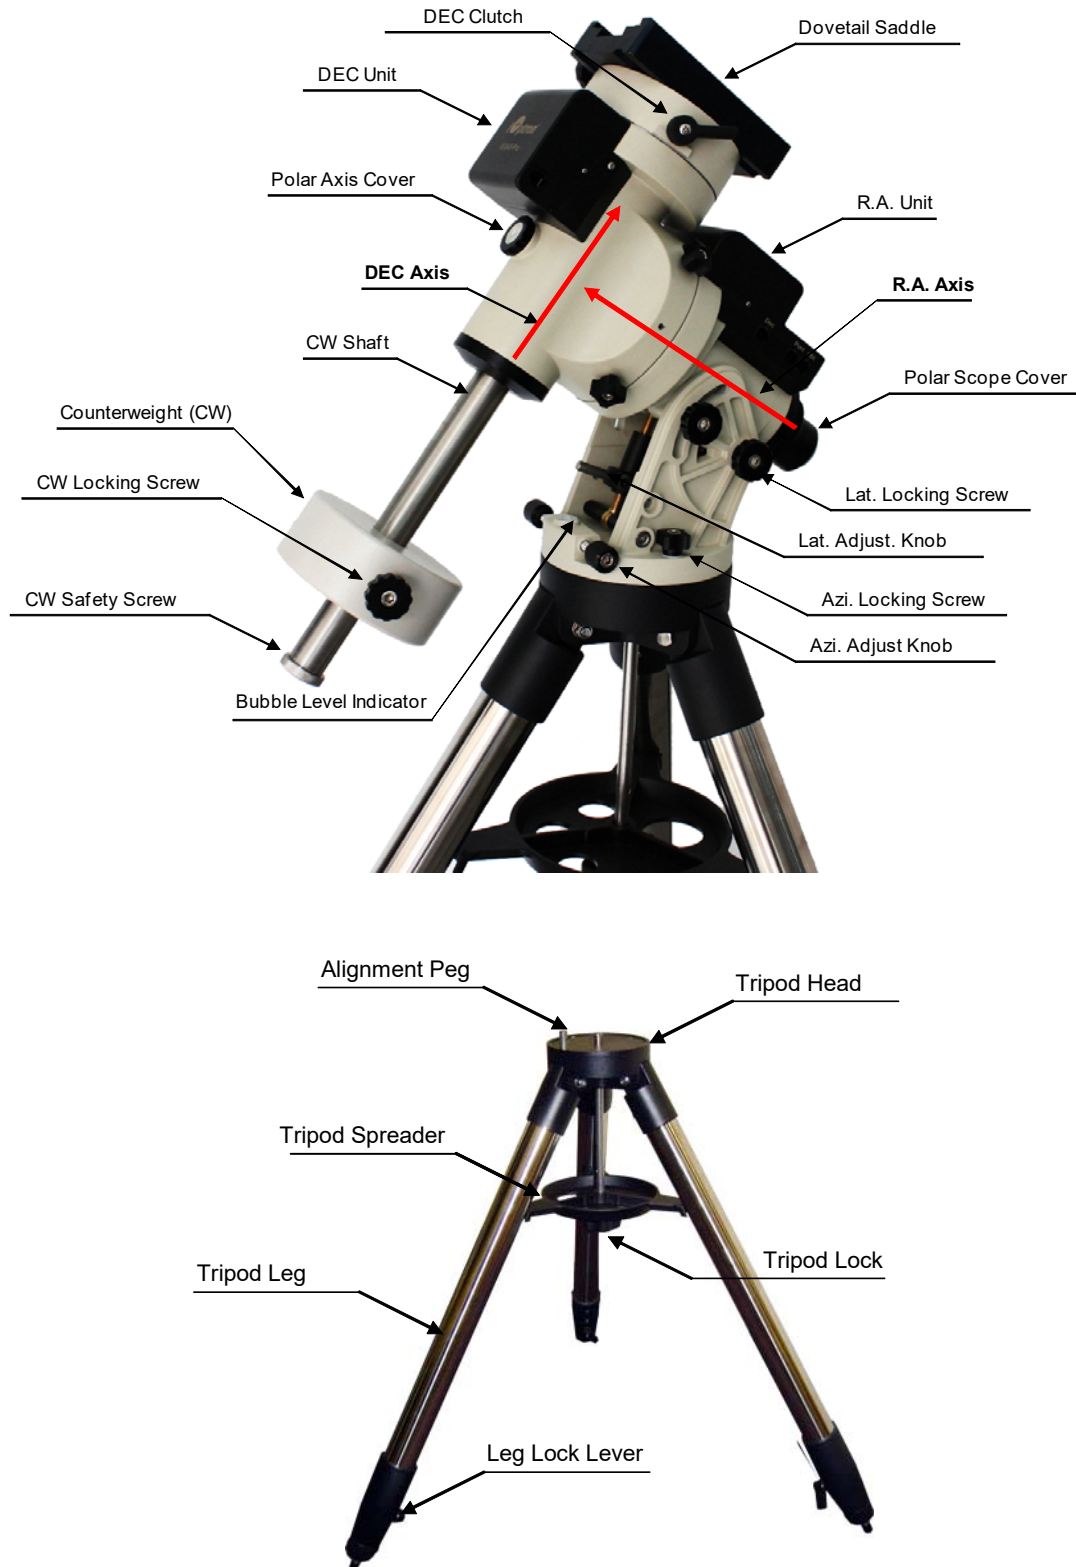

Figure 1. iEQ45 Pro mount assembly
Tighten the two (2) R.A. clutch screws. Carefully remove the mount from the shipping box and tighten the other two (2) R.A. clutch screws on the other side. Familiarize yourself with the components shown in Figure 1.